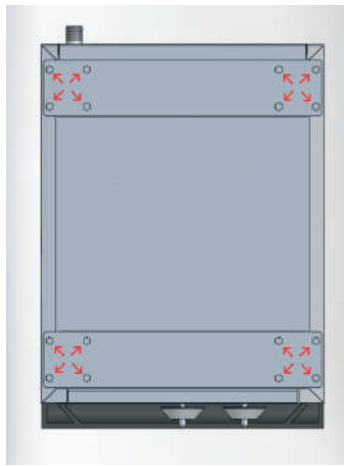

FIG1
2. upside down and locate the leg plate to align the four screw holes (Fig. 1).